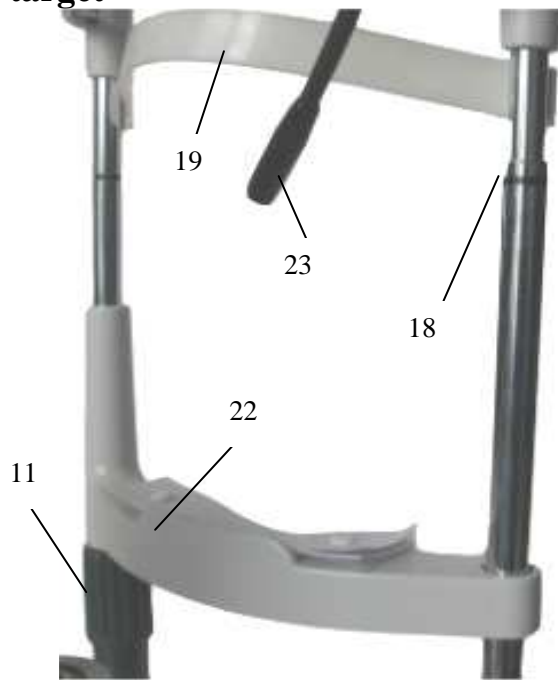

Fig.15
Have the patient place his chin on the chin-rest (22) and the forehead against the forehead-rest belt (19). Adjust the chin-rest elevation adjustment knob (11) below the chin-rest until the patient's canthus aligns with the horizontal mark (18) (Fig.15).